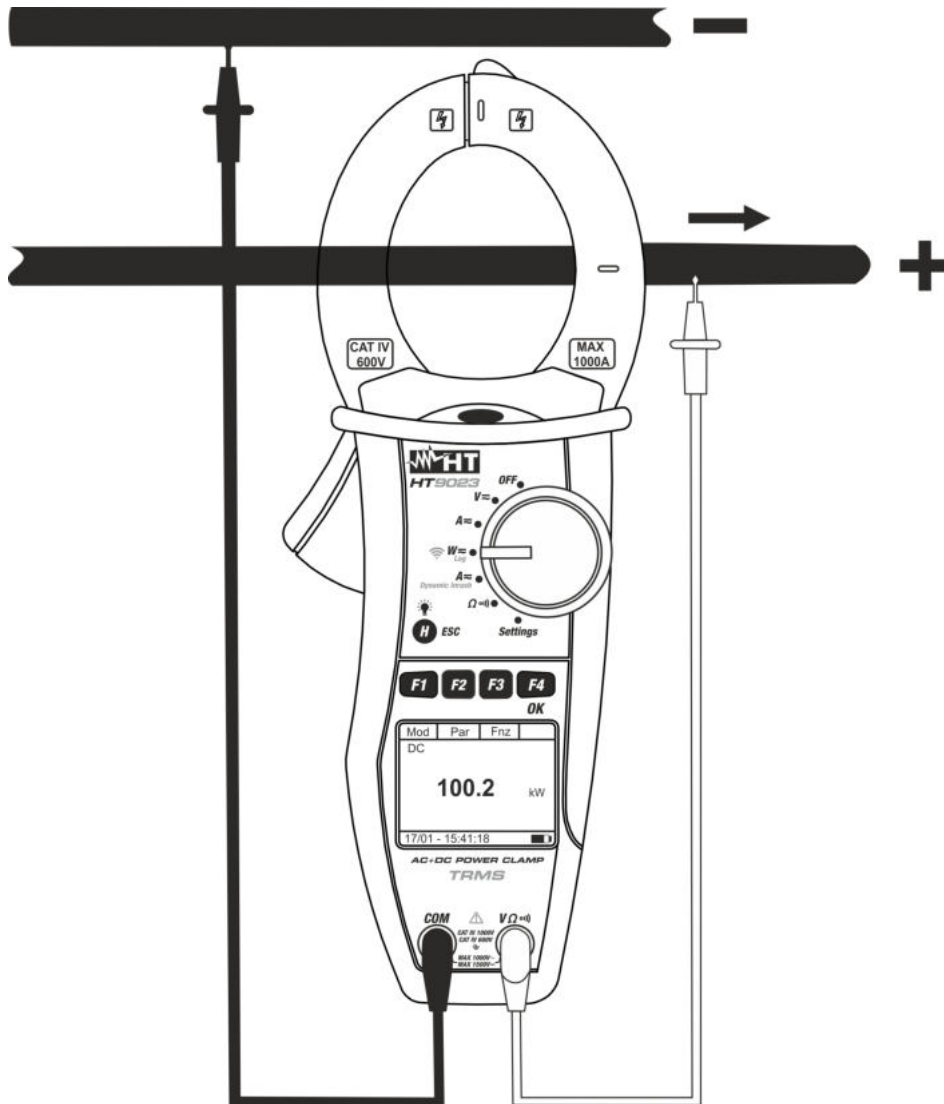

Fig. 12: DC power/energy measurement
- Connect red cable to input lead **VΩ**) and black cable to input lead **COM**. Position red lead to “+” and black lead to “-” then connect “+” cable to the clamp jaws, respecting the direction of current indicated by the arrow (see Fig. 12). Connect the cable to the middle of the clamp jaws, in order to get accurate measurements. Use the marks as a reference (see Fig. 2)
- The value of DC power is displayed expressed in kW. Press **F2 (Par)** to open the drop-down menu shown on the screen aside and select the “**Volt/Curr**” option for the DC voltage and current measurement. Confirm with **F4 (OK)**. The following screen is displayed: